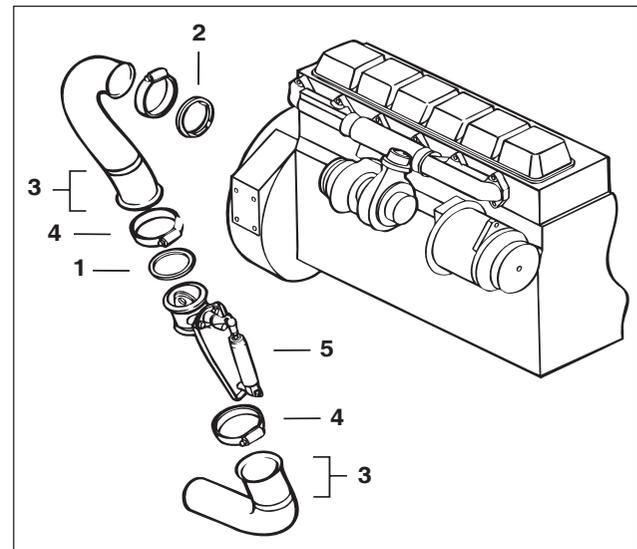

FIG 2
Refer to Figure 2 for the following procedures.
3. The E Brake assembly is mounted to the turbo outlet using the gasket and clamp provided (see Figure 2). The gasket is coated with an adhesive to ease installation. Remove the backing from the adhesive and apply the gasket to the turbo outlet, taking care to center the gasket.